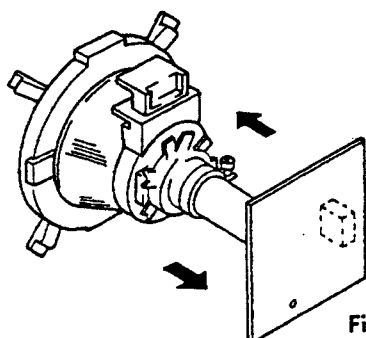

Fig.3-1
(See Figures 3-1 through 3-3.)
4. Move the deflection yoke forward and adjust so that entire screen is green. (See Figure 3-1.)